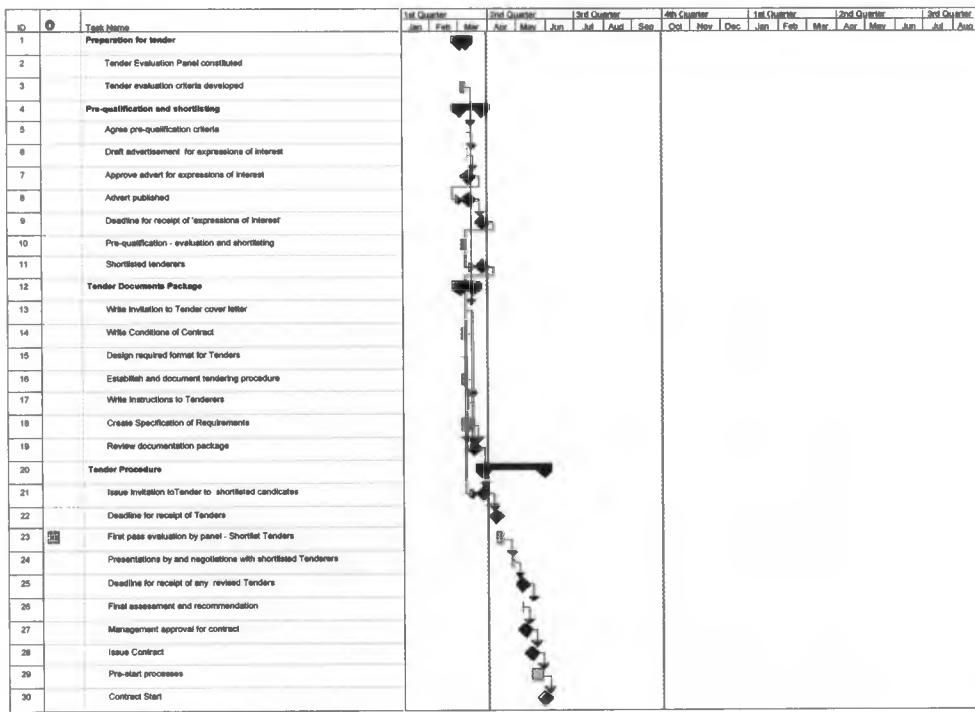
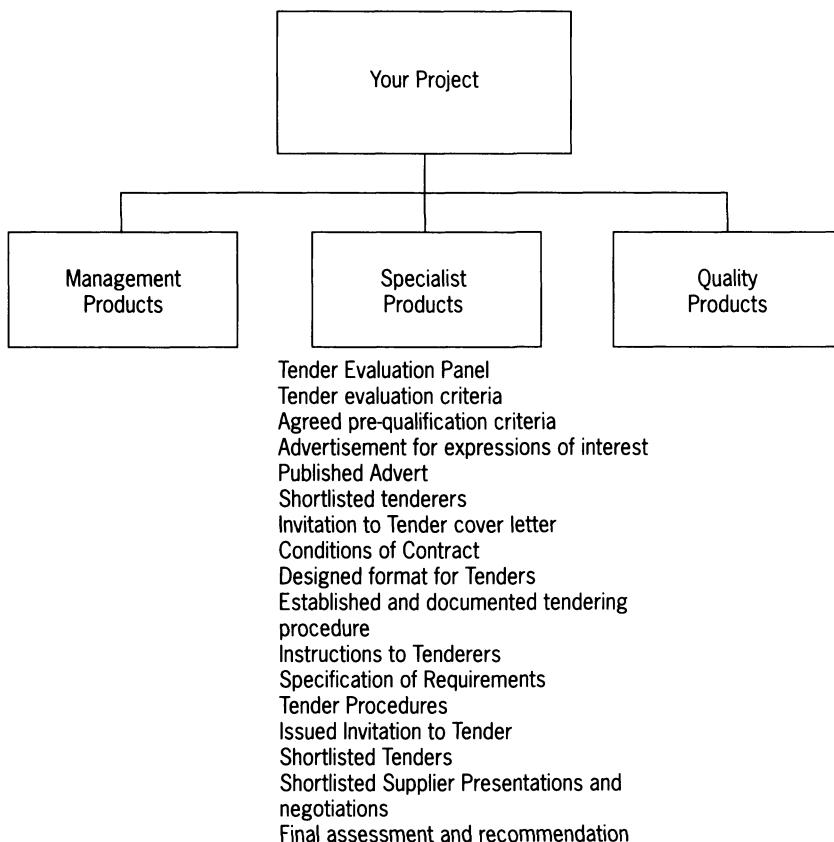

Figure 107 The four products, showing as 'Summary Tasks' containing the tasks needed to create them, and now showing durations, sequence and dependencies
Figure 109 Combination of diagram and lists (specialist products only)
10. Next, you will need to work out the sequence and any dependencies between the tasks. Estimate the duration of each, based on the size of each task and the skill level(s) of the resources available to do the work (see Figure 107). Note that for most software planning tools the default for dependencies is ‘Finish to Start’, and this is implied on a Product Flow Diagram. Once you have drafted the Gantt chart, you may need to check whether ‘Start to Start’, ‘Finish to Finish’ or ‘Start to Finish’ might be more appropriate for some aspects of your plan and adjust it accordingly.
You can produce your PBS as a diagram similar in form to an organization chart, as in Figure 107 above, but may also find a structured list, or a combination of these two approaches helpful. It is common practice to use a diagram for the top levels, with lists of products below each main product-type as in Figure 109.